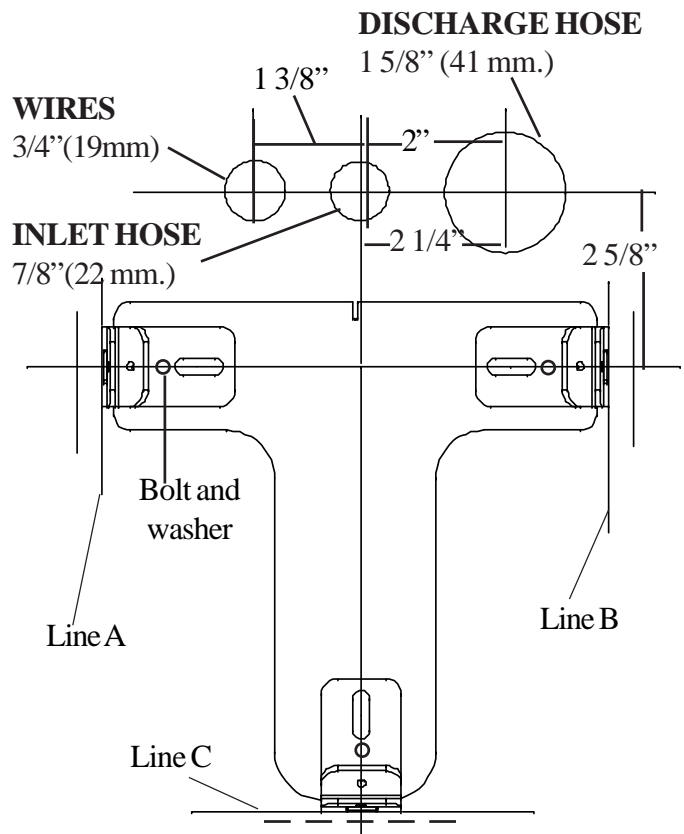

Fig. 2
5. Drill holes for discharge (1 5/8" (41 mm.), inlet hose (7/8" (22 mm.) and wires (3/4" (19 mm.) using dimensions shown in Fig. 2.